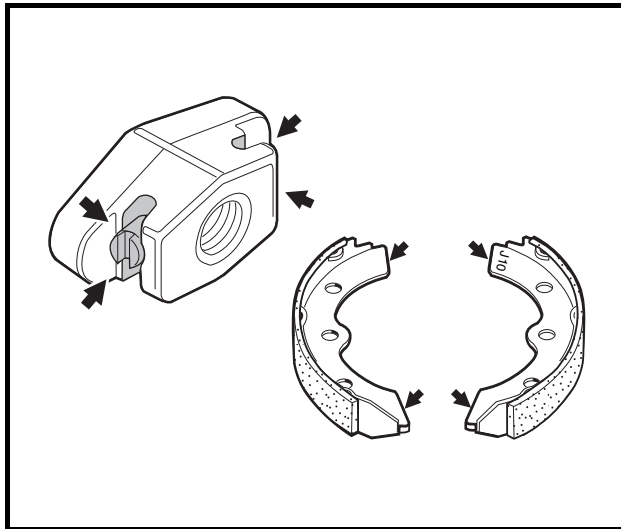

Figure 6-21 Lubricate Shoes
5. Use a small brush to carefully apply a light coat of white lithium NLGI #2 grease (Dow Corning BR2-Plus or equivalent) to each end of both brake shoes and into the slots in the brake shoe mounting block as shown (**Figure 6-21, Page 6-10**). See preceding **WARNING**.